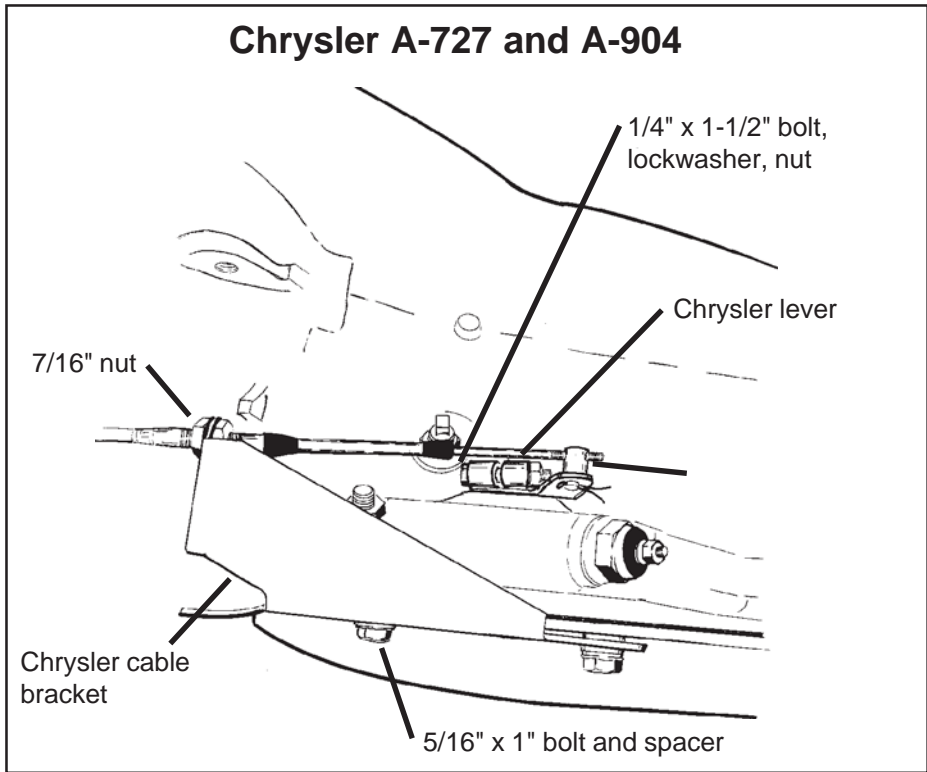

Figure 7
STEP 22. If you have not already done so, loosen the pinch bolt on the throttle lever on the transmission. This is the lever on the small diameter shaft. Pry the lever off with a screwdriver and allow the linkage to hang free. Remove and discard the stock shift lever and the stock shift linkage. Install the **B&M** selector lever in position and tighten the pinch bolt securely (See **Figure 7**). Make sure the lever is not pushed down so far as to touch the transmission case. This will cause the lever to bind on the case. The lever should travel smoothly from front to back with a positive click in each gear position. Install the stock throttle lever in position on the small diameter shaft as removed and tighten the pinch bolt securely. The throttle lever must operate smoothly.